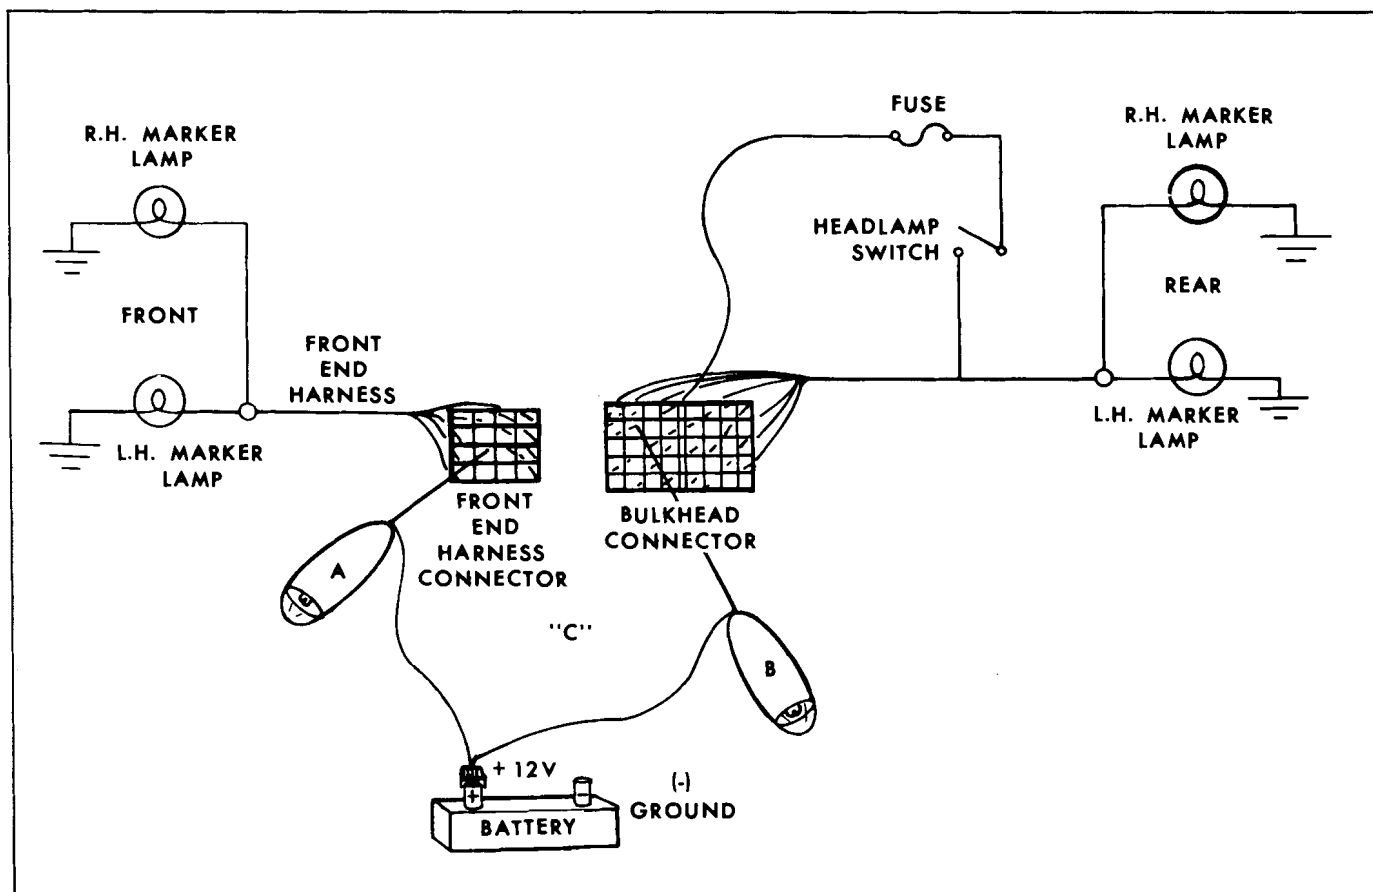

Fig. 12-24 Test Lamp Diagnosis
1. Test lamp connection "A" in Fig. 12-24 checks for continuity from the harness connectors through the front marker lamps to ground.
2. Test lamp connection "B" in Fig. 12-24 checks for continuity from the bulkhead connector through the fuse, headlamp switch and rear marker lamps to ground.